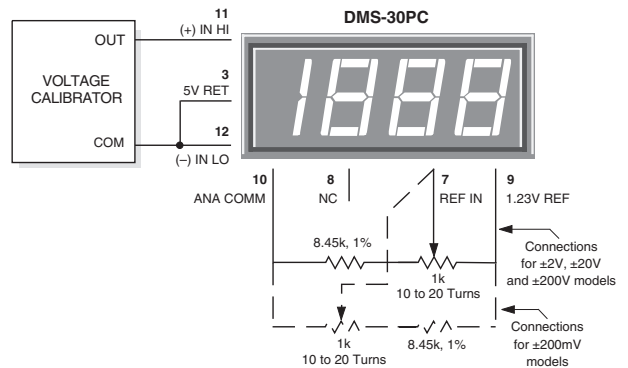

Figure 10. External Gain Adjustment
6. Gain Adjust: There is a gain-adjust potentiometer on the back of each meter. It has approximately ±50 counts (±2.5%) of adjustment range. Since these devices essentially have no zero/offset errors, a gain adjustment is effectively an overall accuracy adjustment. Though they may be performed at any point (except zero), accuracy adjustments are most effective when performed with higher level input signals. The circuit shown in Figure 10 provides ±10% range of adjustment.
8. External Gain Adjustment: Connect REFERENCE OUT (pin 8) to REFERENCE IN (pin 7) for normal, factory calibrated, operation. Use the +1.23V REFERENCE OUT (pin 9) for applications needing external gain adjustment. Figure 10 shows the wiring configuration for each model. Calibration is performed with a precise, near-full-scale, input voltage.